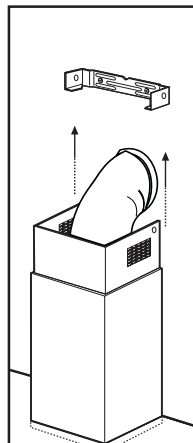

Fig. 13a
- Slide the lower section of the flue down to cover the aspiration set until inserting it completely into the opposite housing over the hood. **Fig. 13a**